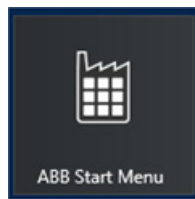

Figure 4. Accessing ABB Start Menu through the ABB Start Menu Icon
- the pinned ABB Start Menu icon in the Windows 8 Start Screen, as shown in Figure 4.